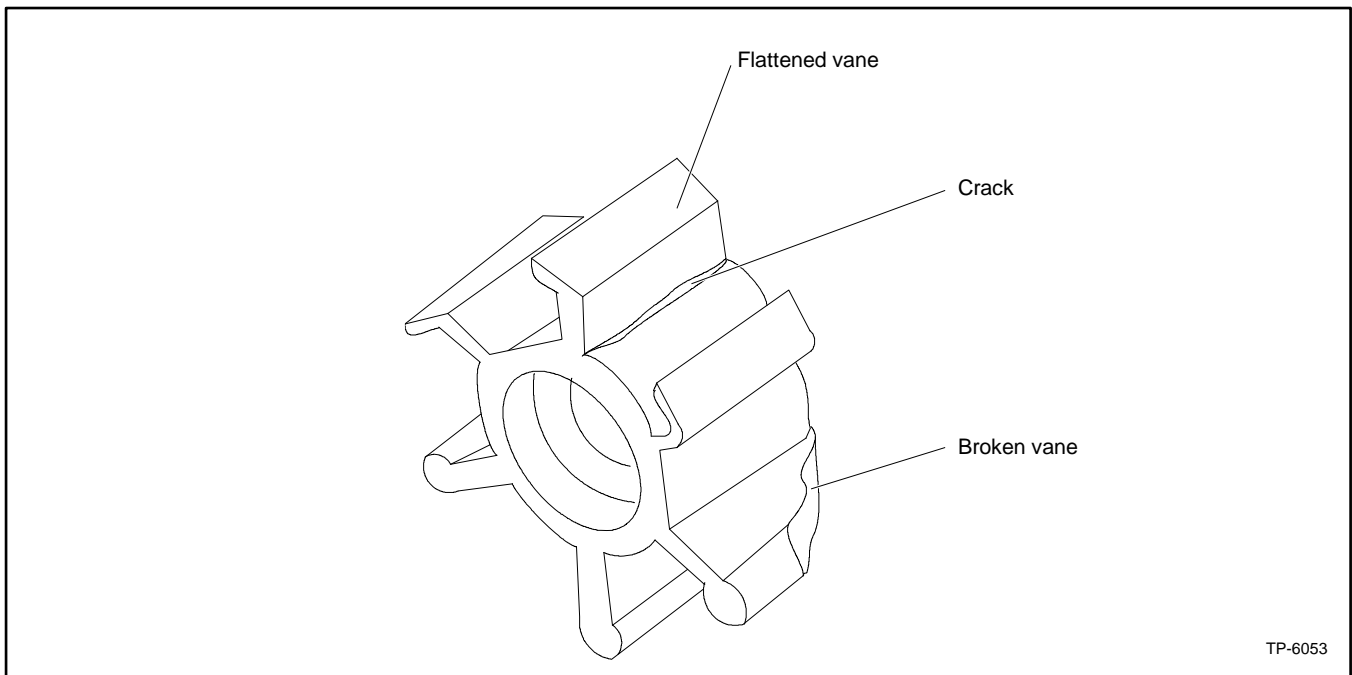

Figure 41 Worn Impeller
7. Inspect the impeller for damaged, cracked, broken, missing or flattened vanes. The impeller vanes should be straight and flexible. See Figure 41. Replace the impeller if it is damaged.